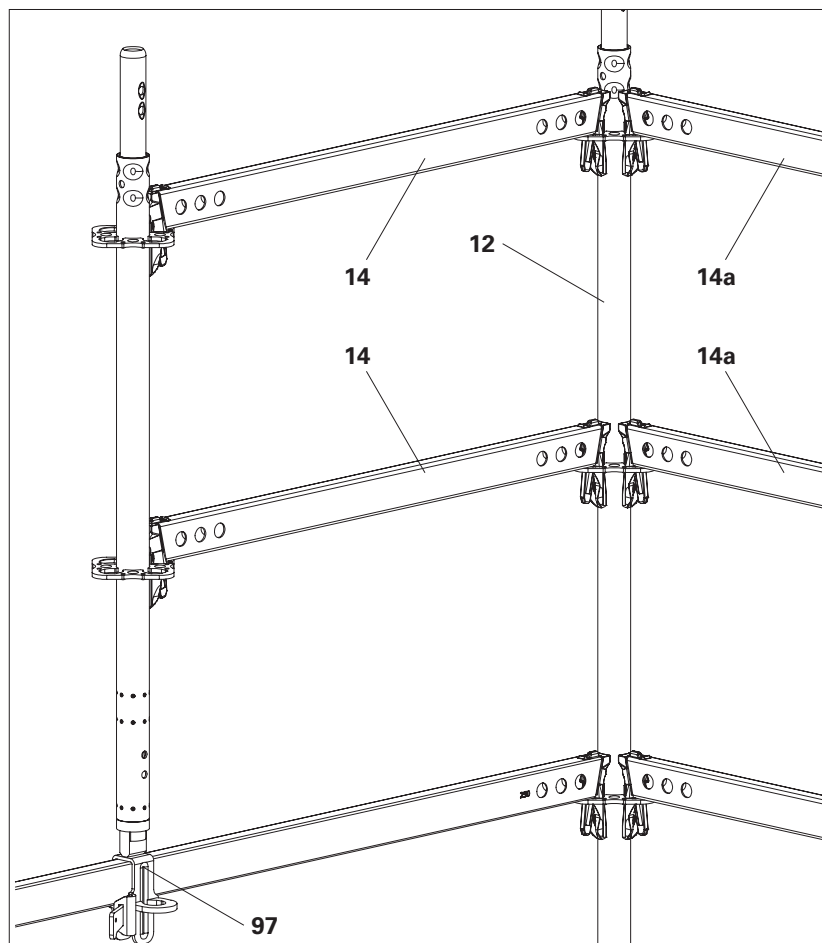

Fig. A11.10
- Its use as a support for a free-standing guardrail post is only possible if the free guardrail post is connected to a torsionally stiff standard (**12**) with 2 horizontal ledgers ≤ 2.25 m (**14**). The standard (**12**) must be held by further horizontal ledgers (**14a**) extending at an angle of 90° . (Fig. A11.10) Otherwise, note "Installing verticals when using Guardrail Posts EPG" on page 130.